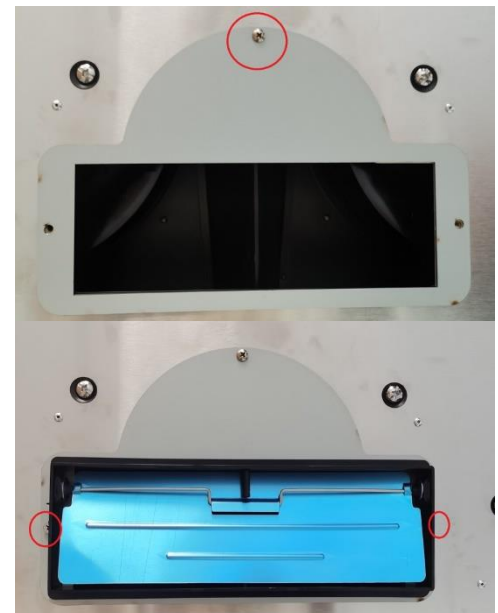

Figure 2
9. For Top 3-1/4" x 10" Rectangular vent installation only: Remove attached 6" Round vent and discard. Keep seven screws to install the rectangular vent. Align and secure Top Vent Cover with Rectangular Opening with one screw. Then align and secure 3-1/4" x 10" Rectangular with two screws. (Refer to Figure 2)